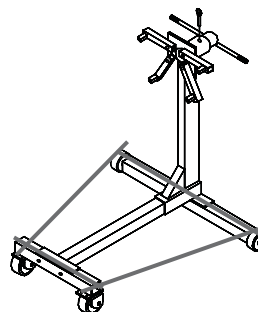

Figure 3 - Peripheral Loading Limit of Engine Stand
**ALWAYS** verify that the product and the application are compatible. **NEVER** load the engine stand with an engine that extends beyond an imaginary line drawn connecting the centerlines of the front and rear wheel/ caster axles as show in Fig 3.